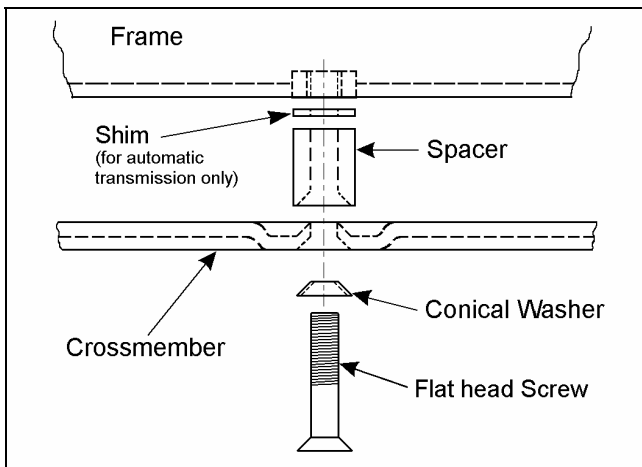

Figure 17
- 4) ☐ If flat head screws were removed, install a conical washer and apply thread lock to 3 flat head screws from kit 860161. Insert the screws through the crossmember, spacers, and into the frame. See figure 17.